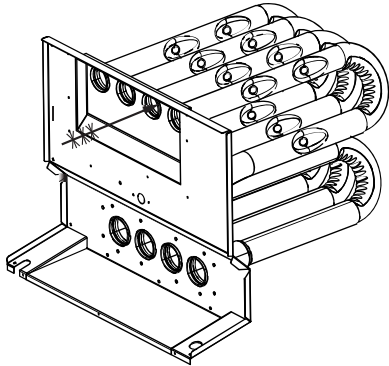

Fig. 42 – Cleaning Heat Exchanger Cell
- (2.) Insert brush end of cable into the outlet opening of cell and slowly rotate with drill. DO NOT force cable. Gradually insert cable into upper pass of cell, see Fig. 42.